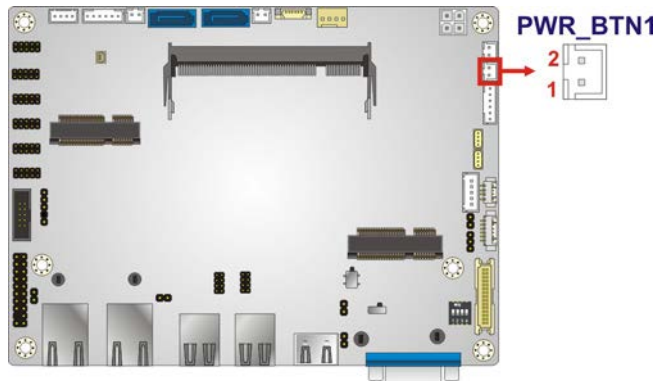

Figure 3-18: Power Button Connector Location
- CN Location:** See Figure 3-18